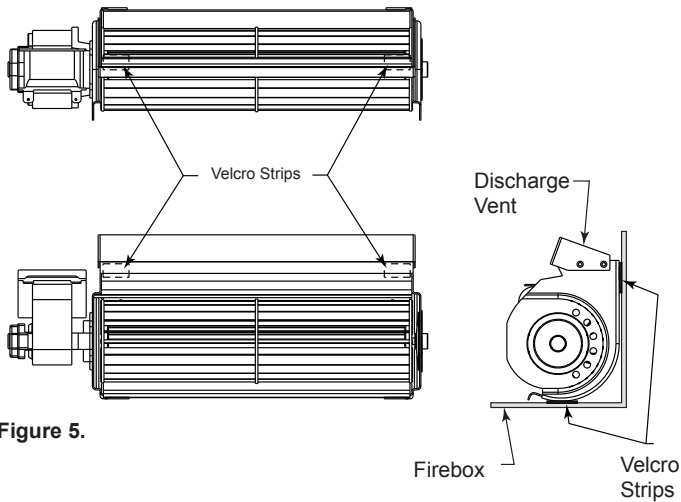
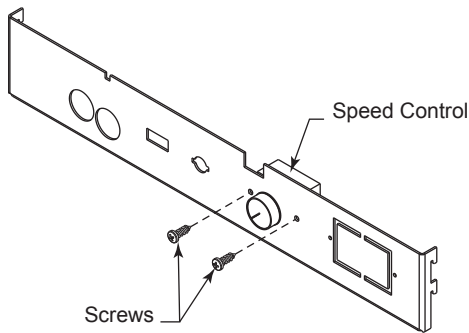

Figure 5.
Figure 6.
3. Remove the tape from the back of the Velcro and slide the blower into position on the inside back firebox wall. The blower should be centered with the rear blower discharge vent facing up and flat against the firebox back wall and floor. Figure 5
For DVB and DV Designer Series, the speed control is to be mounted to the control panel. Figure 6. For CDV and CFDV the speed control is to be mounted to the mounting tab on the floor. Bend tab up 90°. Figure 5